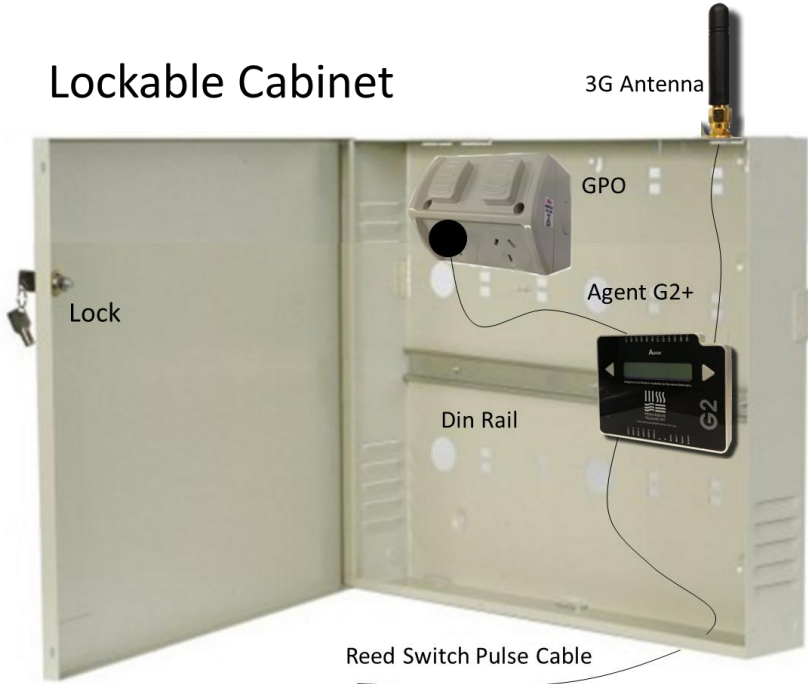

Figure 1 –
- Din rail mounted in the cabinet to lodge the telemetry device as shown in Figure 1.